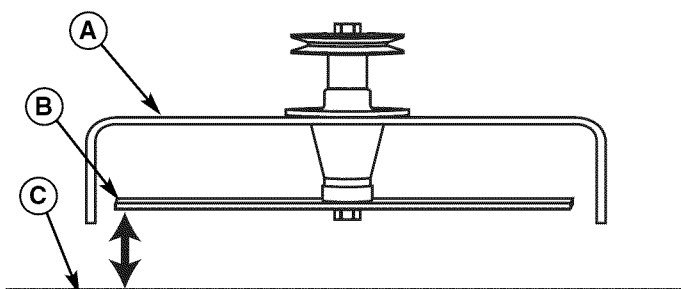

Figure 40. Measure Blade Tips to Ground
5. Measure the distance between the tips of the outside blades and the ground (Figure 40). If there is more than 1/8" (3 mm) difference between the measurements on each side, proceed to Step 6. If the difference is 1/8" (3 mm) or less, proceed to Front To Back Leveling.